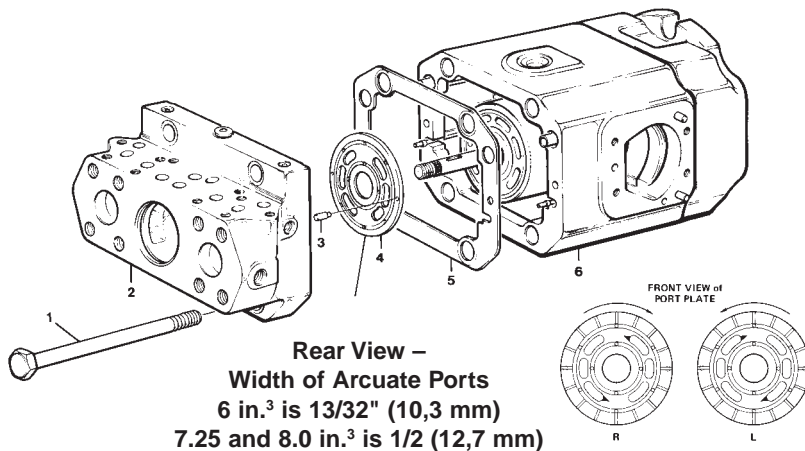

Figure 8
See figure 8 on next page. Position the pump with the unplugged hole (top drainport) in the housing assembly at 12 o'clock position.
Install the two special pins (3) in the face of the port block assembly. Apply petroleum jelly or heavy grease to the plate (4) and position port plate over the pins (3) on the port block. Port plate must be fully seated and indexed towards direction of rotation. (See port plate view in figure 8.)
PARTS LIST FOR FIGURE 8